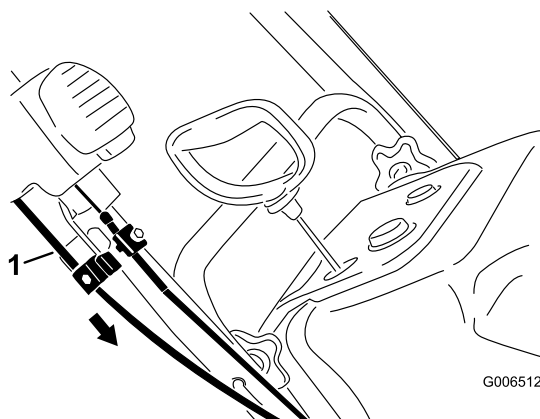

Figure 35
4. Hold the discharge chute in the straight-ahead position, pull the lower cable casing downward until you remove the slack in the cable, and tighten the screw on the lower cable clamp securely (Figure 35).